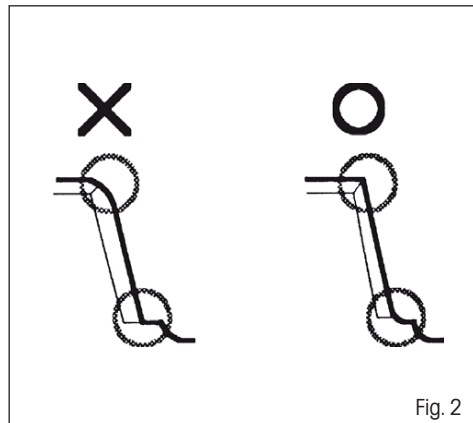

Fig. 2
1. Maintain a sharp end edge on the blade (Fig. 2). The best working angle of the blade is 45°.